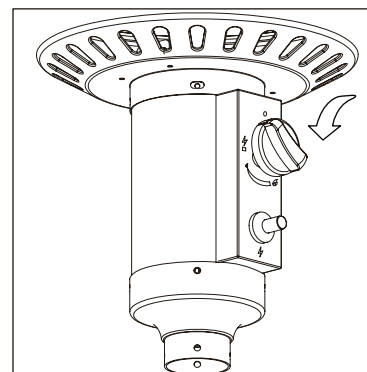

Figure 2
4. Push control knob in and rotate counter clockwise to "PILOT" () position (Figure 2).